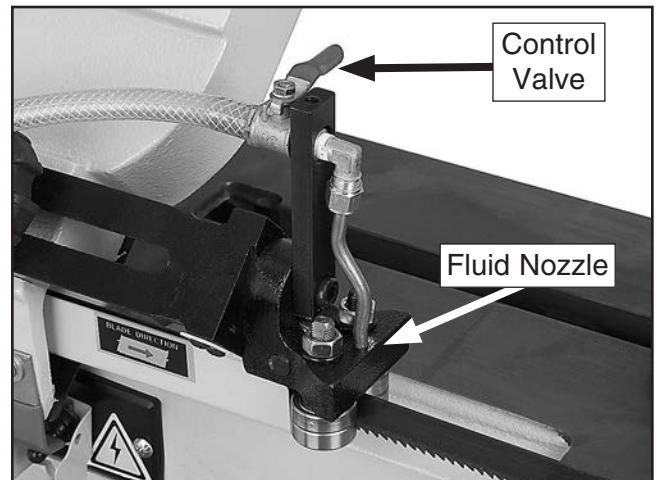

Figure 39. Location of coolant control valve.
4. Adjust valve on coolant hose to control flow of coolant (see **Figure 39**). Make sure that pressure is not so high that coolant spills on floor and creates a slipping hazard.